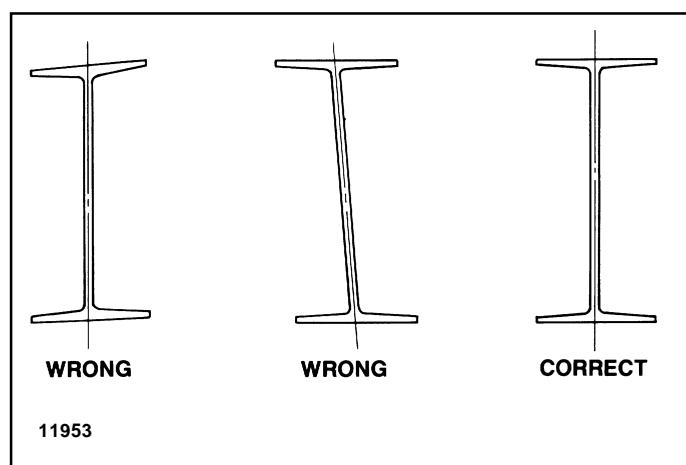

Figure 2. Correct Beam Selection.
1. Bridge Beam. Obtain one length of American Standard I-Beam Section at the size recommended (see chart on page 1) or American Standard Wide Flange Beam Section at the size recommended (see chart on page 2) for the required capacity and span of bridge. The beam selected should be reviewed by a structural engineer for the application. The beam that you order must be a minimum length of the span plus 9-1/4". The beam selected must be straight with flanges parallel to each other and flanges at 90 degrees to the web. See Figure 2. For long spans with the larger rated loads, a channel is also required. The channel must be a minimum length of the span minus 4'-0".